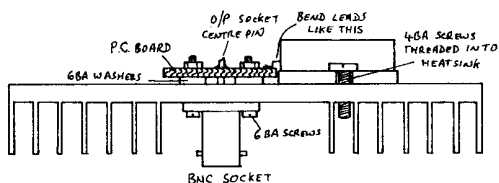

Fig.5 MECHANICAL ARRANGEMENT
For the type of heatsink I used I thought the best way of connecting the output would be to mount a BNC socket onto the heatsink (see fig.5) and let the centre pin protrude up through. The pin passes through the PC board itself and is soldered into the end of the output stripline. Because the top and bottom ground planes have been bonded together with wires, the board itself cannot lay flat against the heatsink. I spaced the board away using five 6BA brass washers (four on the BNC socket flange and one at the other end). This meant that the board could be firmly fixed and made a good ground connection.
3. Solder the stakethroughs in (use resistor wire offcuts or a piece of tinned copper wire) ensuring that the underneath solder joints are as low-profiled as possible. These may be filed flatter if they stand too proud for the washers. Now fit the PC board to the heatsink using the five washers (see fig.5) and finally solder the coax socket centre pin to the output line.
6. By offering up the module you will see that the pins (wires) protrude from it slightly higher than the PC board. These wires must be bent down and then out so that they lay flat on the board. DO NOT bend the wires directly from the module body, doing this more than a couple of times will surely break off the leads and render the module useless. (Well you never know if it will need to be removed at a later date, perhaps for re-fitting somewhere else). Grasp the lead against the module using a pair of long-nosed pliers, then bend it downwards. Now, using the pliers, bend the leads out again so that they lay flat on the board - trim off any excess (see fig.5).